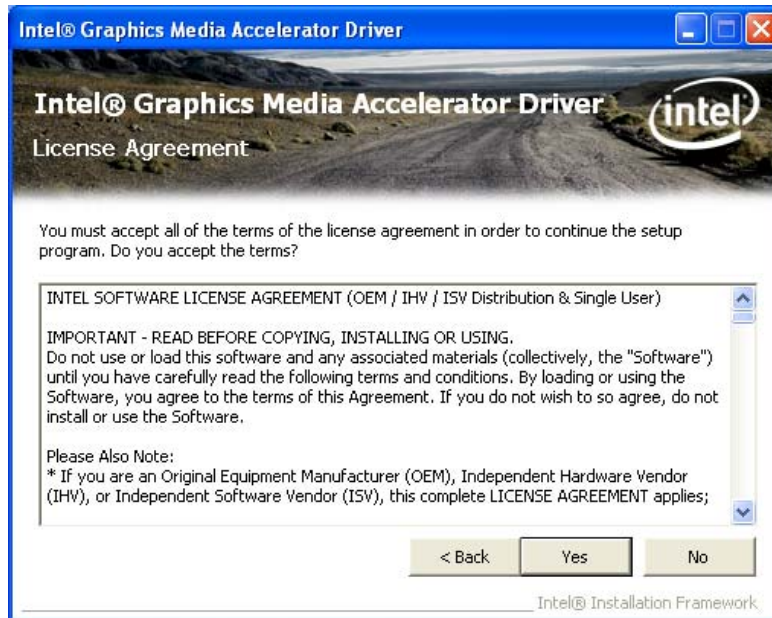

Figure 6-11: VGA Driver License Agreement
Step 10: The **License Agreement** in **Figure 6-11** appears.